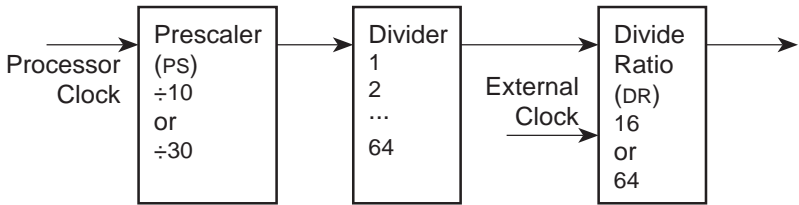

Figure 3-23. Z180 Baud-Rate Generator
The prescaler (PS), the divide ratio (DR), and the SS bits form a baud-rate generator, as shown in Figure 3-23.